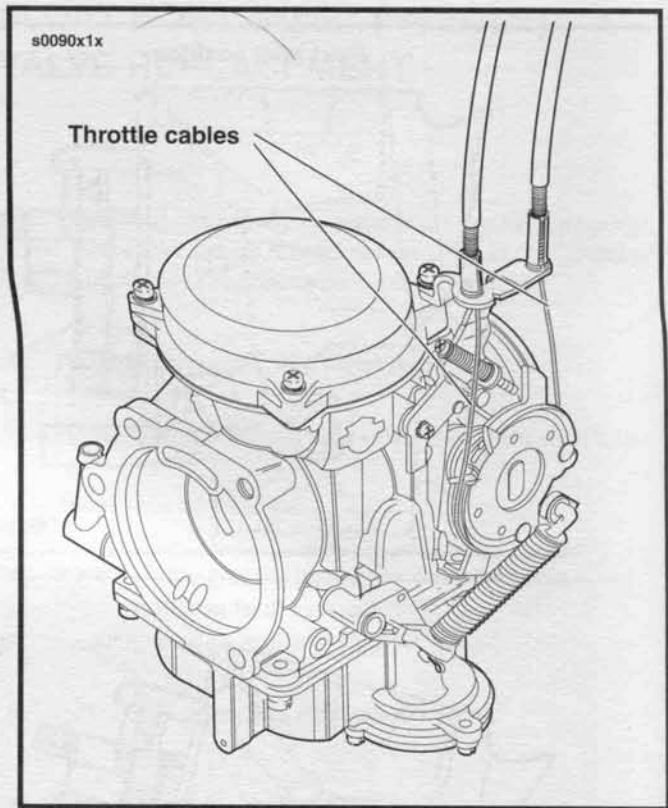

Figure 4-11. Throttle Cables
4. Disconnect the throttle cables (see Figure 4-11) and enrichener cable (56, 57, and 58, Figure 4-12).